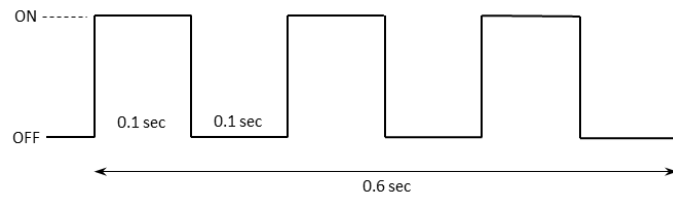

Figure 1-9: The RED LED Pattern Before Entering DEEP SLEEP
1. **RED** is toggled ON and OFF every 0.1 sec for 0.6 sec as shown in Figure 1-9.